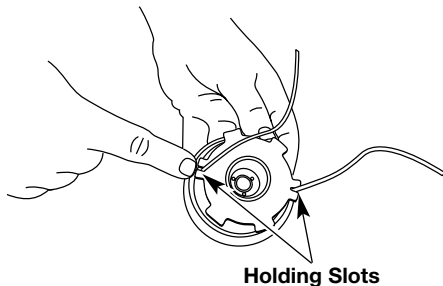

Fig. 19
7. Insert the ends of the line into the two holding slots (Fig. 19).